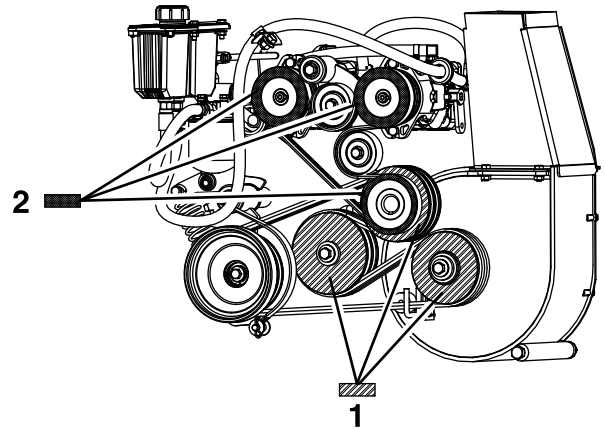

Figure 20
inch to 1/16 inch (0.8-1.6 mm). Use a straight edge to align all three surfaces (see Figure 20).
3. Using a straight edge, align each pump pulley with the engine pulley by sliding along the pump shaft (see Figure 20).